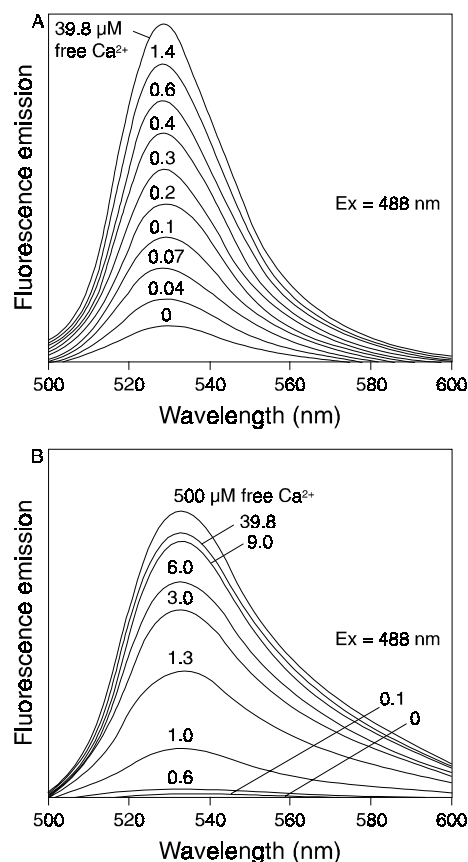

Figure 1. Emission spectra of A) Calcium Green-1 and B) Calcium Green-2.
The long-wavelength calcium indicators Calcium Green™, Oregon Green® 488 BAPTA, Calcium Orange™ and Calcium Crimson™ are visible light-excitable probes derived from fluorescein, Oregon Green 488 dye, tetramethylrhodamine and Texas Red®, respectively. Molecular Probes prepares these indicators in the water-soluble potassium salt form, cell-permeant acetoxymethyl (AM) ester form, and in some cases as compartmentalization-resistant dextran conjugates (Table 1). Upon binding to calcium, these indicators exhibit an increase in fluorescence emission intensity with little shift in wavelength (Figure 1). The spectral characteristics of the long-wavelength indicators have three major advantages: 1) Their emissions are in regions of the spectrum where cellular autofluorescence and scattering backgrounds are often less of a problem; 2) The energy of the excitation light is low, reducing the potential for cellular photodamage; and 3) The wavelengths required for optimal excitation are compatible with those produced by laser-based instrumentation, such as confocal laser scanning microscopes. Long-wavelength Ca^{2+} indicators also provide increased options for simultaneous measurements of other physiological parameters, such as pH and membrane potential,^{1,2} and for experiments involving photo-activatable “caged” probes.³